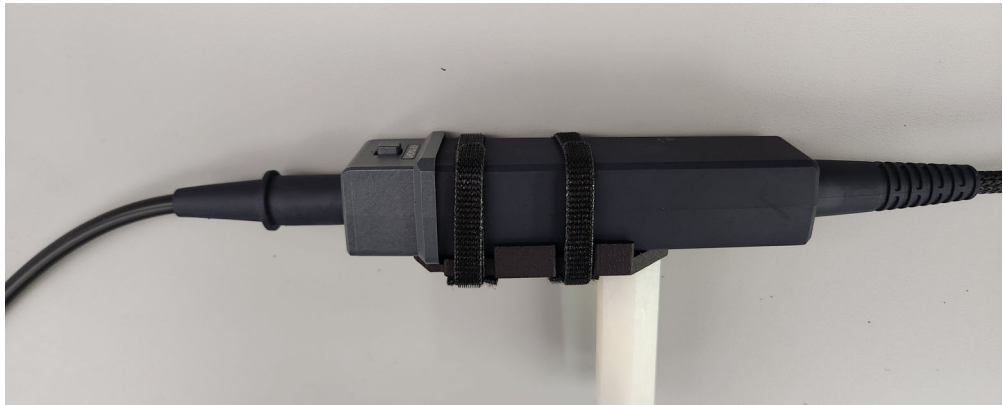

Figure 27 Example of the Adapter with Probe
- c** The assembly should resemble **Figure 27** with the probe attached.